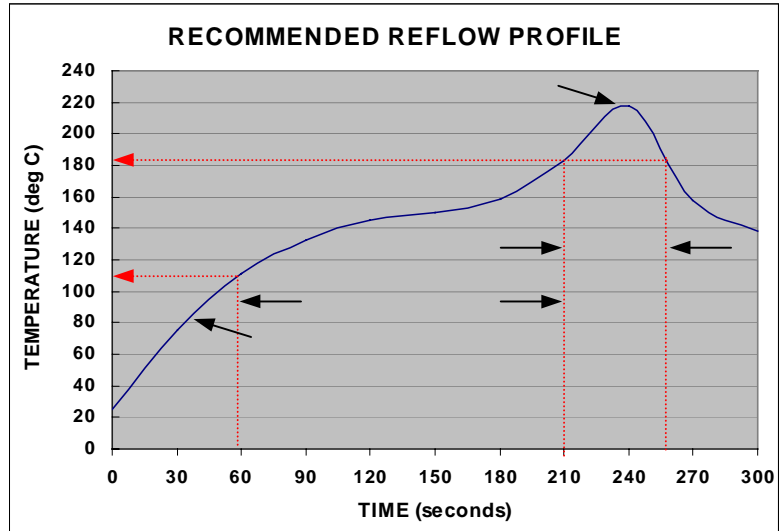

Figure 26. Recommended Reflow profile.
1. Refer to the recommended Reflow Profile per Figure 26. Profile parameters exceeding the recommended maximums may result to permanent damage to the module.